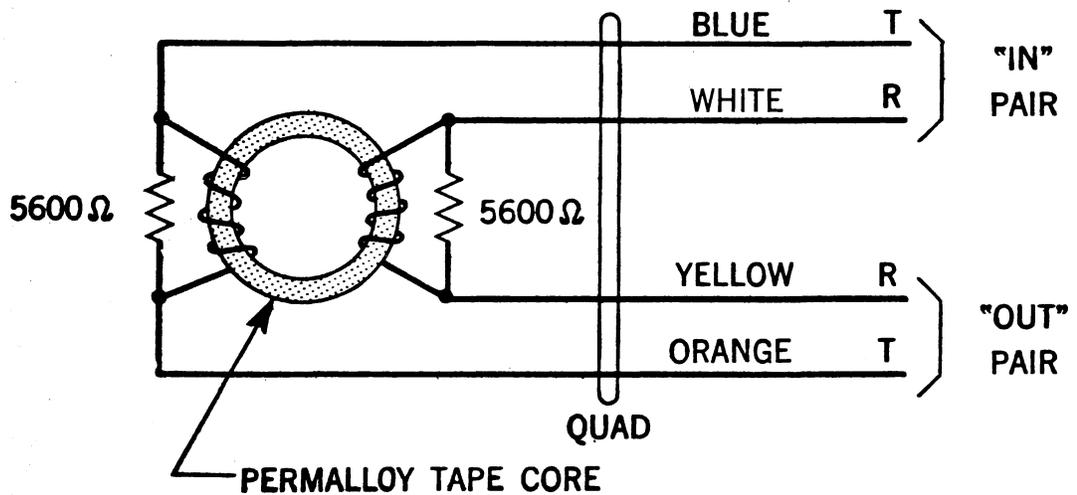

Fig. 1 - Schematic Representation of 1574-Type Inductors
2.01 The 1574 bridge lifters are of the saturable reactor type as illustrated in Fig. 1. The two series windings are wound on a common permalloy tape core whose saturation characteristics determine the operating performance of the device.
A unit with the addition of a 5600-ohm resistor shunted across each series winding of the coil. See Fig. 1. This modification results in an improved noise tolerance. In the idle condition (large inductance) the coil becomes resonant with the line capacitance at the lower harmonics of 60 cycles. Thus, the idle bridge tap becomes a noise generator to the active portion of the loop. The 5600-ohm resistor shunted across each coil lowers the Q of the series resonant LC bridge lifter and line capacity combination. The lower Q circuit has a much lower noise (60~) voltage thereby being more tolerant to inductive influences.